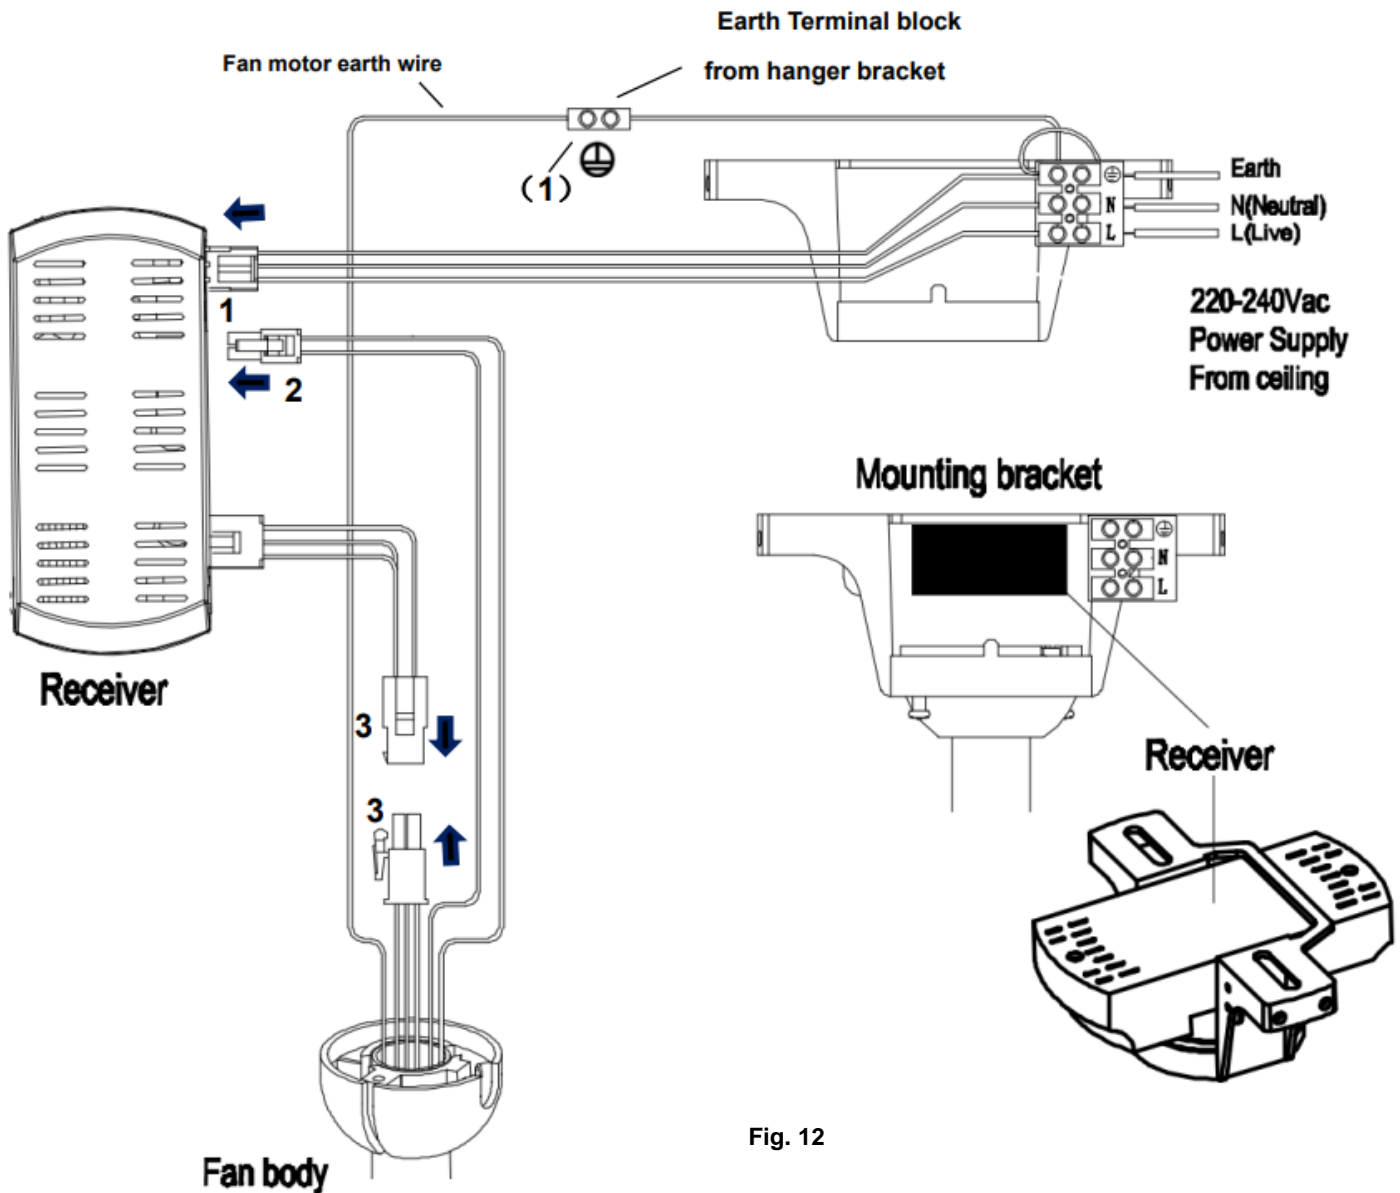

Fig. 12
PREPARE AND COMPLETE THE ELECTRICAL WIRING --- WIRING DIAGRAM (FIG. 12)
NOTE: Ensure the motor earth wire is connected to the single earthing terminal block “ (1) ” in the diagram below (Fig. 12).
From mains supply to mounting bracket terminal block: (Fig. 12)
From mounting bracket to receiver and motor: (Fig. 12)
Carefully insert the Remote Receiver above the hanger ball in the remainder spacing in the mounting bracket. Take care not to damage or loosen any of the wiring. (Fig. 12).